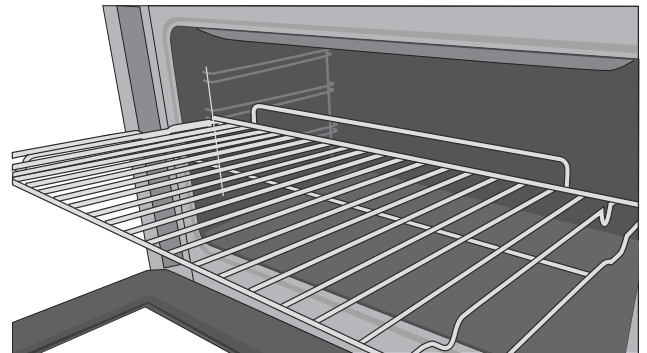

Figure 28
- 5** Insert the oven racks. (See Figure 28)